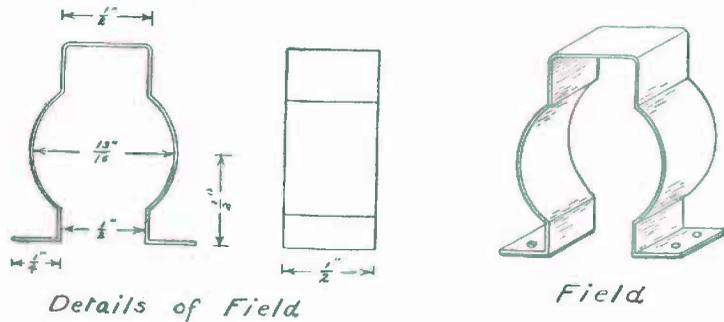

FIG. 245. — The Field.
**The Field Magnet** is made by first cutting out a strip of tin one-half by four and then bending it into the shape shown in Figure 245. The easiest way of doing this with accuracy is to cut out a piece of
wood as a form, and bend the tin over the form. The dimensions shown in Figure 245 should be used as a guide for the form.